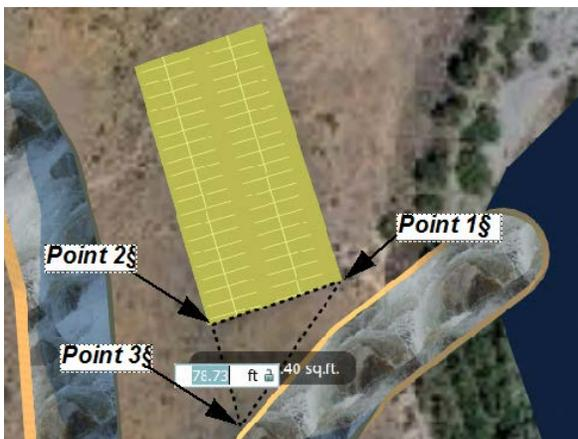

Figure 14
10. Set the points for the vertices, as shown in Figure 14.